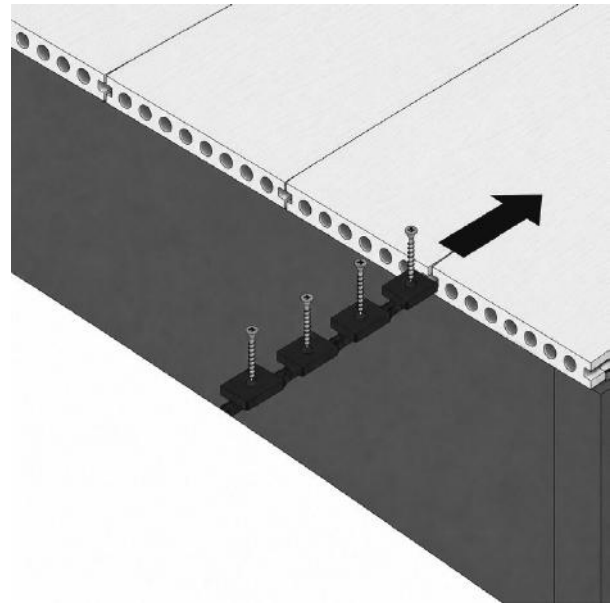

FIG. 9 – 6 MM HIDDEN CLIPS SLID IN BETWEEN THE LAST BOARDS
- With the 2 boards in place and at least a 6 mm gap between them, slide down the required number of 6 mm hidden clips (fig. 9)